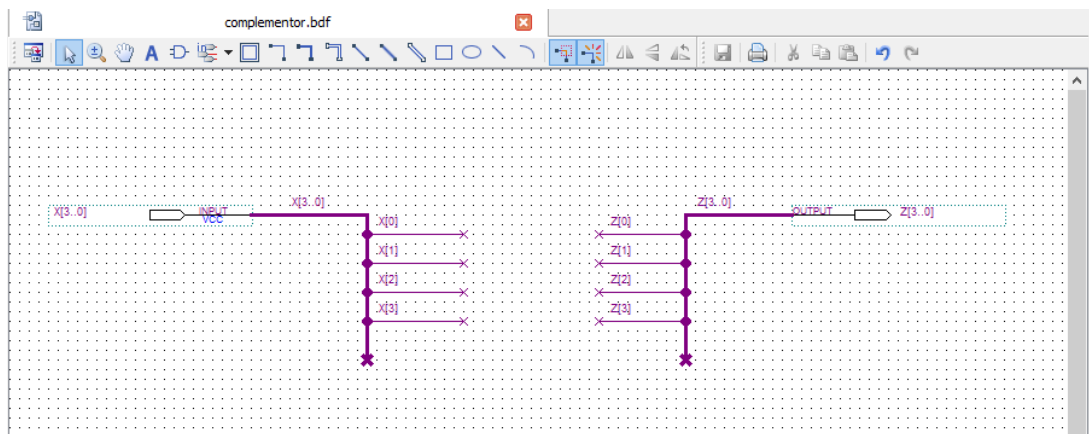

Figure 4.14 A bus implementation which is missing a logic design
29. Your bus design should be seen as in Figure 4.14. (Of course there should be your complementor design in between them with wires etc. connected accordingly.)